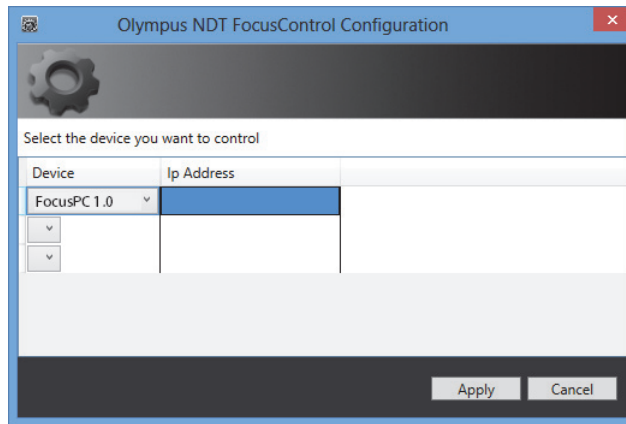

Figure 3-2 The Configuration page
2. On the **Configuration** page, in the first list under **Device** (which is selected by default), select **FocusPC [version]** and leave the **IP Address** box empty (see Figure 3-2 on page 53).